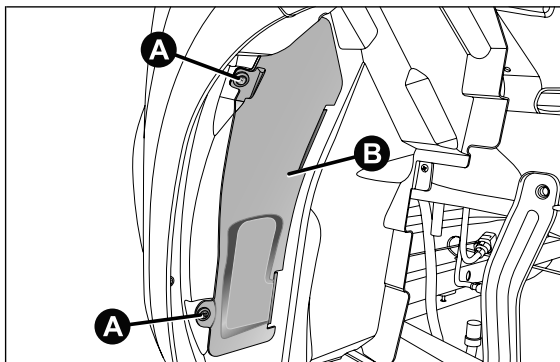

fig. I 25
- ☐ adjust the screws A fig. I 25 and remove the flap B;